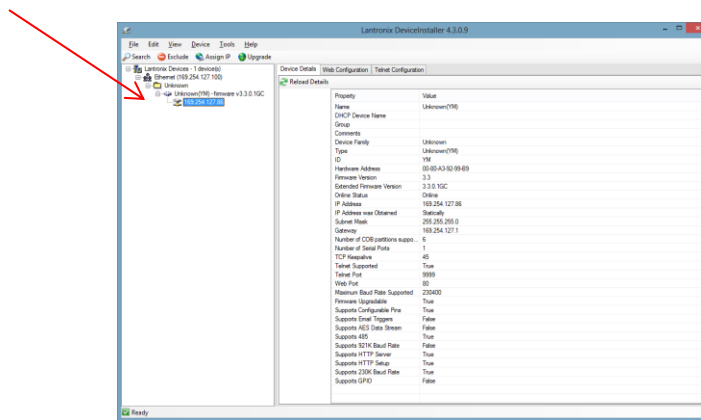

Fig 6.1.1
6.1 In the “DeviceInstaller” software, expand the cross (in the left pane) as shown in Fig 6.1.1.